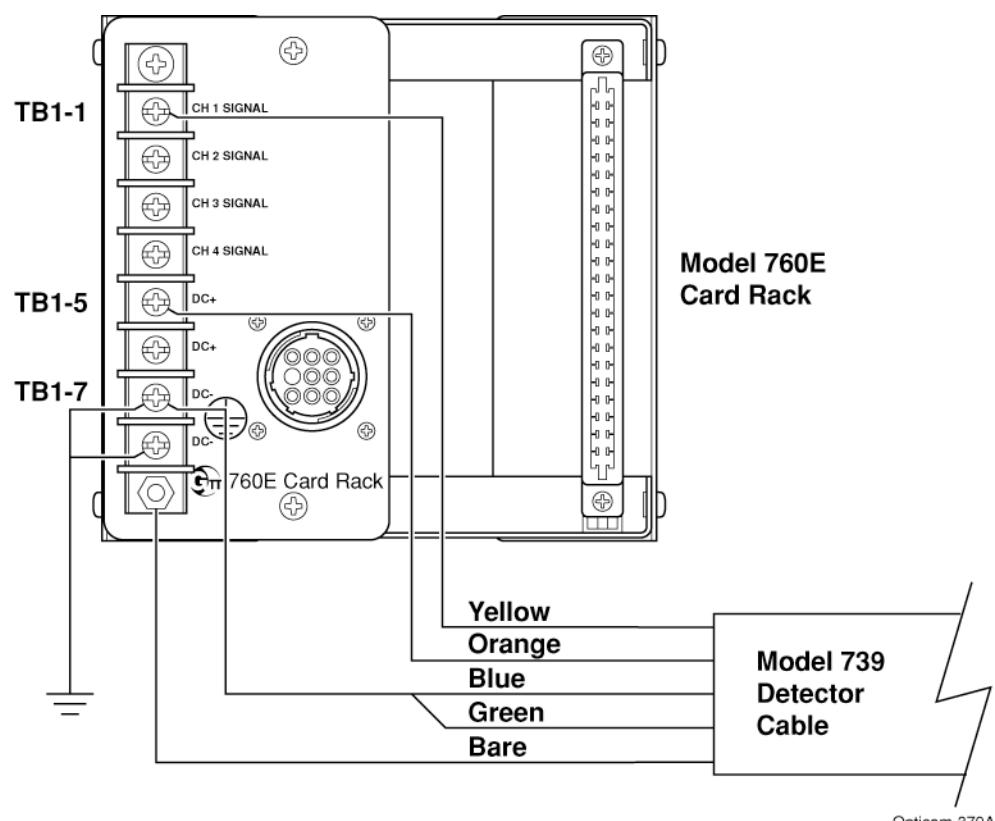

Figure 5-6. Detector Connections for Single Channel
7. Connect the bare wire to the threaded terminal at the bottom of the terminal strip. See Figure 5-6.
8. Connect the yellow wire to one of the channel terminals listed below (see Figure 5-6):